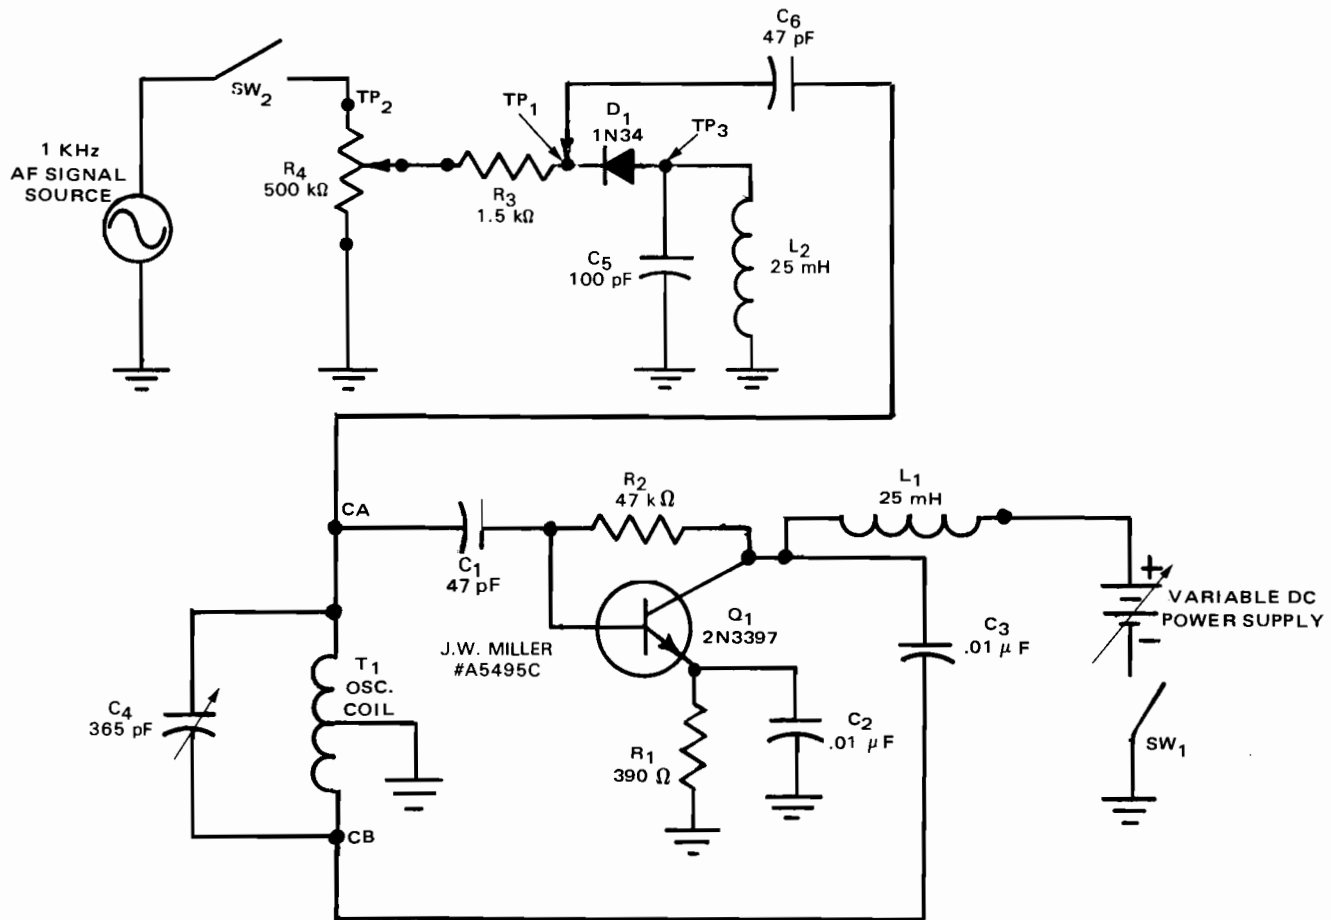

Fig. 19-1-1
1. Connect the amplitude modulation circuit of Fig. 19-1-1.